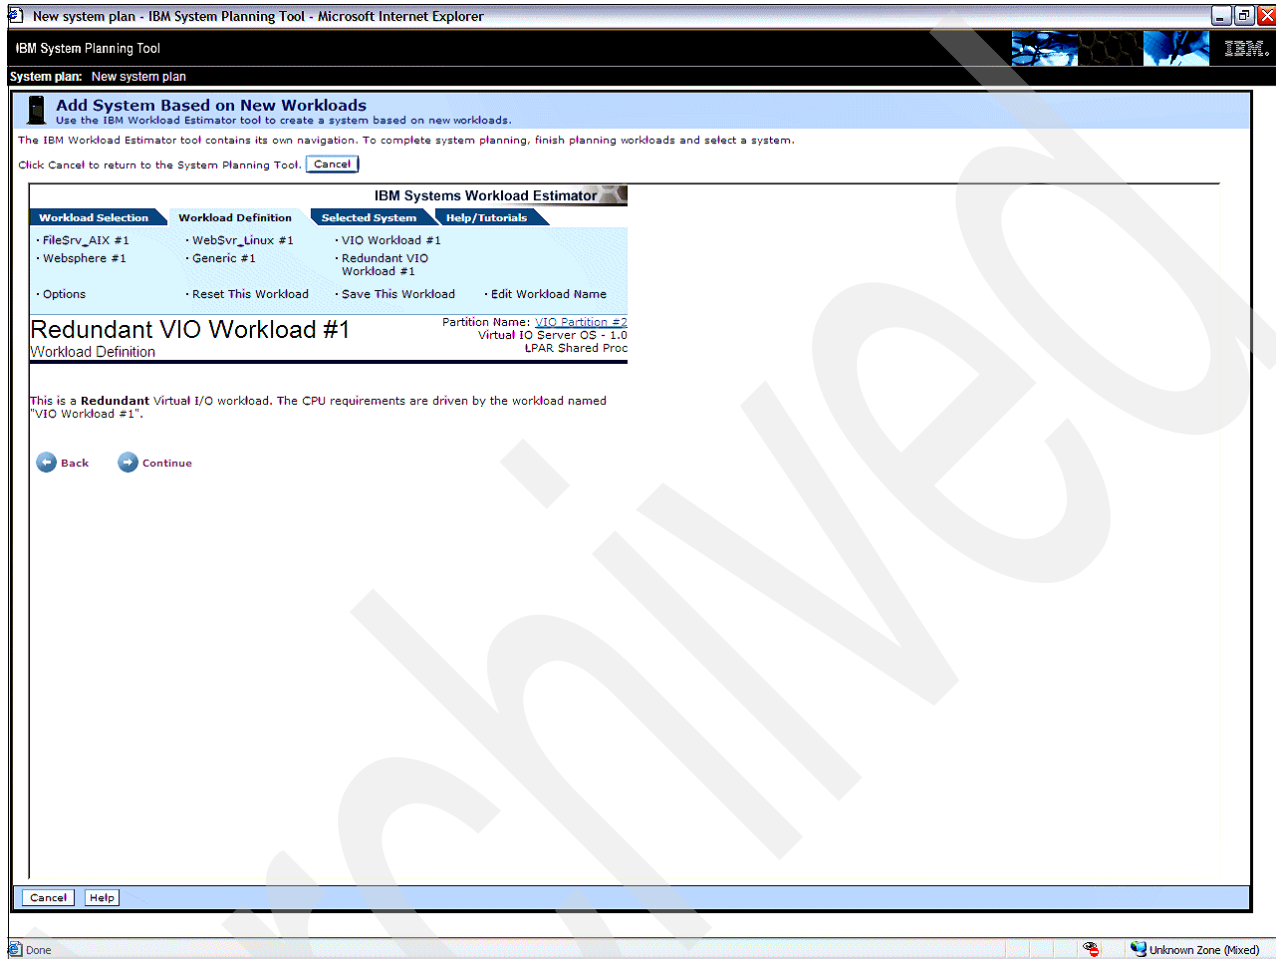

Figure 5-31 Question for redundant Virtual I/O Server partitions
11. The question is asked if a redundant Virtual I/O Server is needed. In the Redpaper *IBM System p Advanced POWER Virtualization Best Practices*, REDP-4194, we recommend a redundant Virtual I/O Server for mirrored volumes and to allow a more robust use of Multiple Path I/O connections. Figure 5-31 shows the selection options. After making your selection click **Continue**.